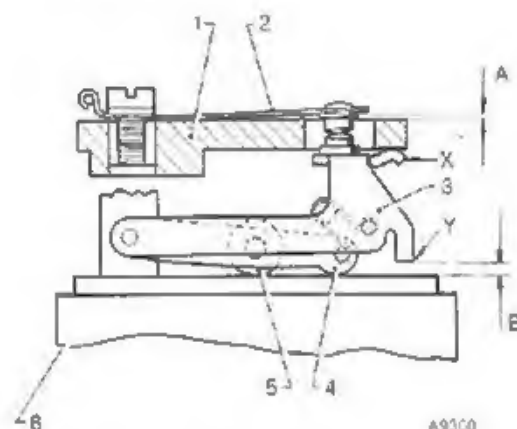

Fig 13. The rocker finger settings on modified rocker assemblies.
- 28 Check the lift of the contact blade tip above the top of the pedestal (A) (Fig. 13) with a feeler gauge, bending the stop finger 'X' beneath the pedestal, if necessary, to obtain a lift of $0.9 \text{ mm} \pm 0.13 \text{ mm}$ ($0.035 \pm 0.005 \text{ in.}$).
- 29 Check the gap between rocker finger and coil housing (B) (Fig. 13) with a feeler gauge, bending the stop-finger 'Y', if necessary, to obtain a gap of $2.3 \text{ mm} \pm 0.13 \text{ mm}$ ($0.090 \pm 0.005 \text{ in.}$).